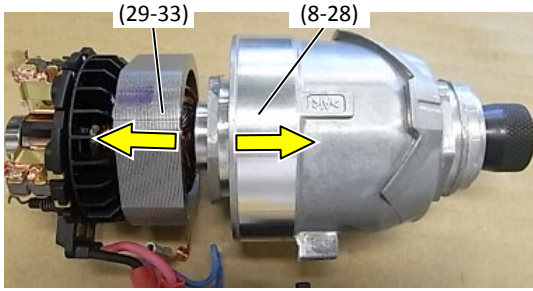

Figure 6
1. Remove Hammer case section (8-28) from Motor section (29-33). (See Figure 6)